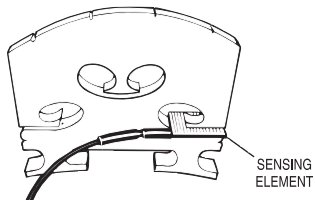

FIG. 1
2. Slide the V-100 Transducer into the wing slot of the bridge (See Fig.1). Make certain that the sensing element is in contact with the wing face and that the spring is in contact with the corresponding "leg" face of the bridge.